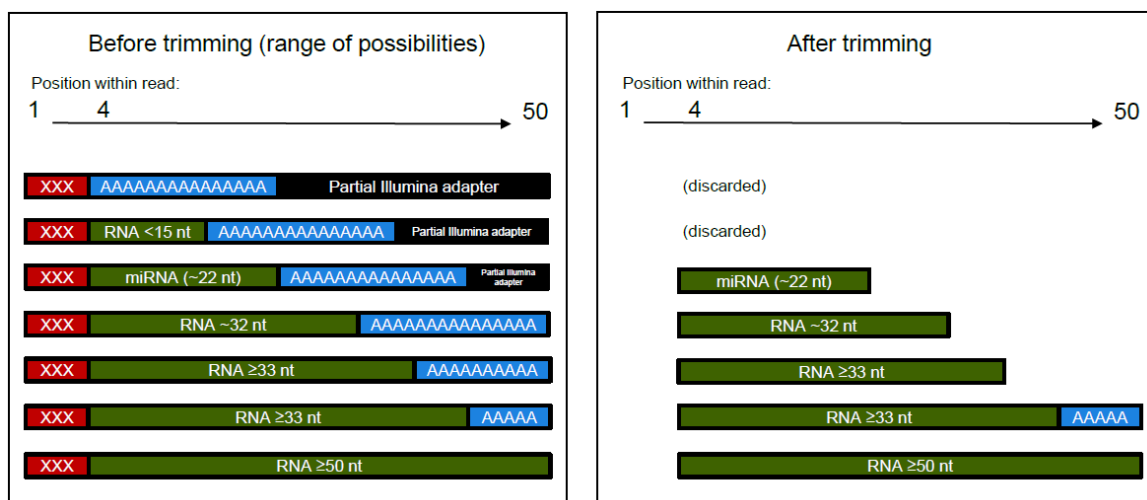

Figure 11. Example of possible reads obtained before and after trimming.
Because reverse transcription involves dT-priming on artificial poly(A) tails, a good proportion of reads will include stretches of As (particularly when 20–25 bp-sized library inserts are selected with the BluePippin system). Figure 11 is a schematic representation of what the reads may look